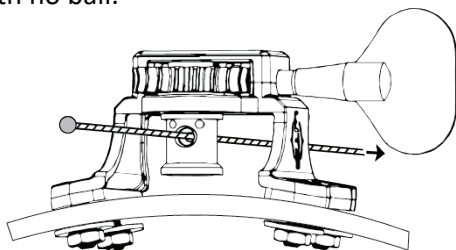

Fig. 2
4. Thread the end of the cable with no ball through the large hole in the winding post. Pull the cable through until ball stops in receptacle (**Fig. 2**).